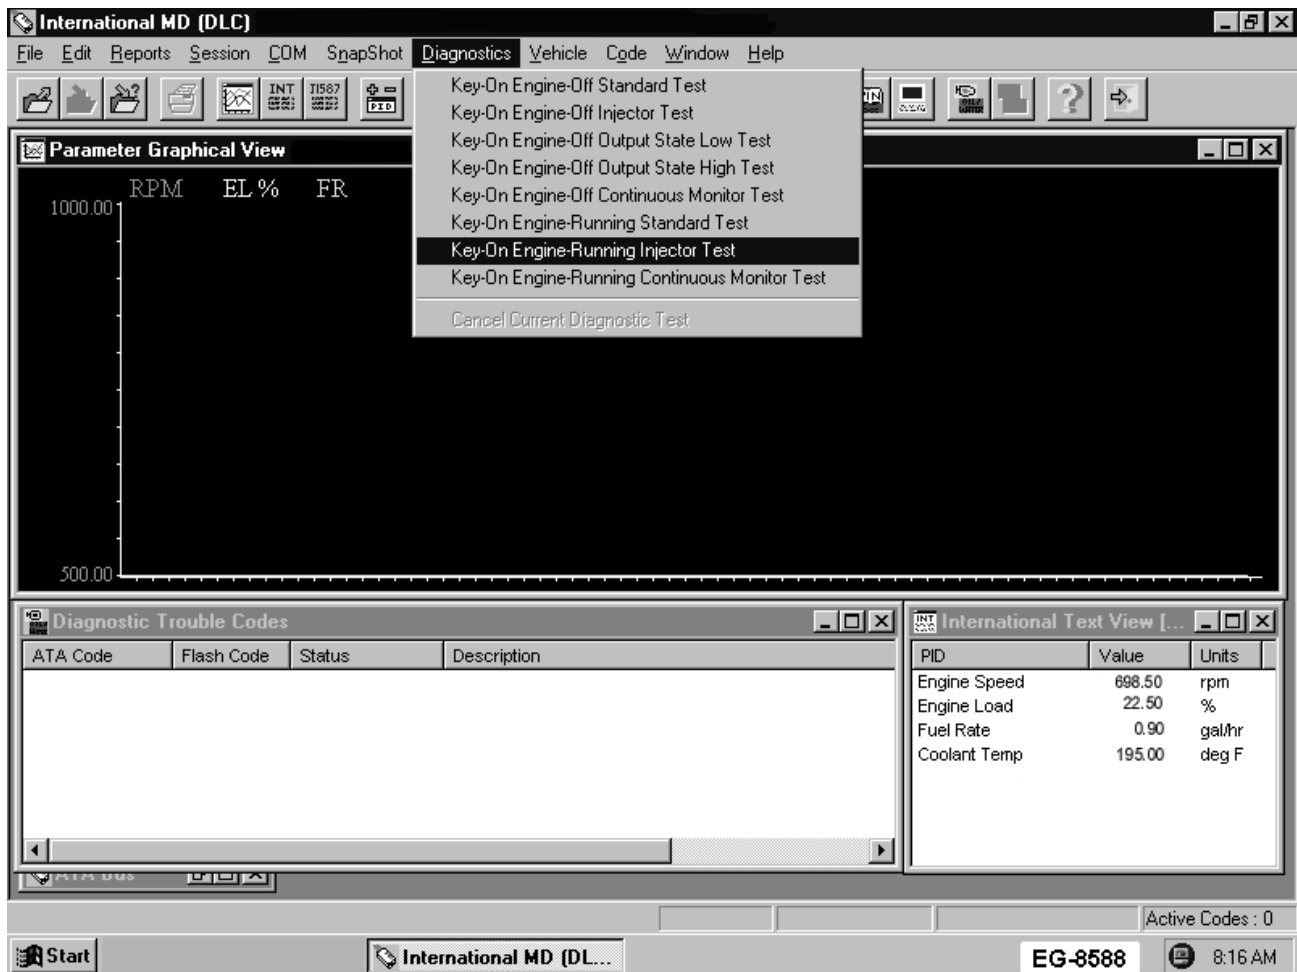

Figure 172
9. When the standard test is complete, select the **Diagnostics** drop-down menu and select the **Key-On Engine-Running Injector Test** (See Figure 172, page 367).